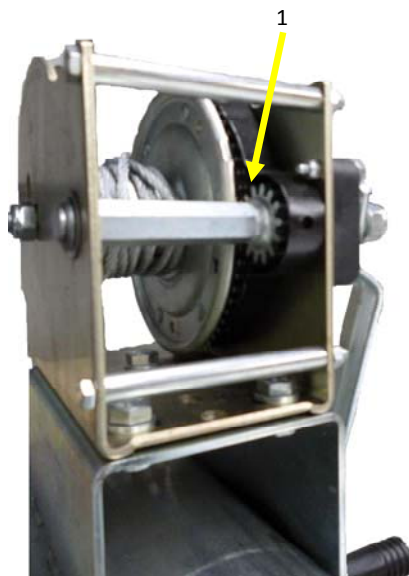

Figure 21 : Hoist greasing
Grease the gears at least once a year and more frequently if the winch is used intensively. To do so, do not disassemble the winch. Make the drum turn and grease the gear structure with a brush (fig. 21 ref 1). Use grease type Molydal n°3790.